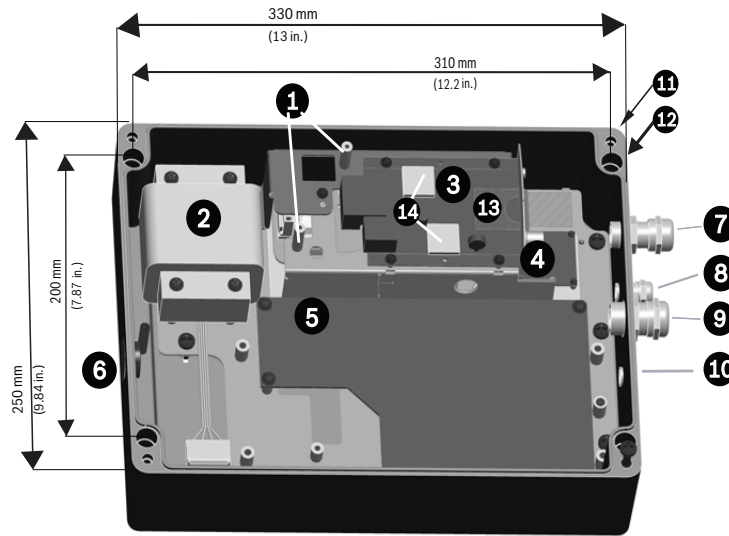

Figure 3.1 Layout of MIC IP PSU (Model numbers: MIC-IP-PS-115, MIC-IP-PS-230, MIC-IP-PS-24)
2. Loosen the four (4) captive Phillips head screws on the top of the lid of the power supply enclosure (item 11, *Figure 3.1*). Lift the lid and set it upside down next to the enclosure.